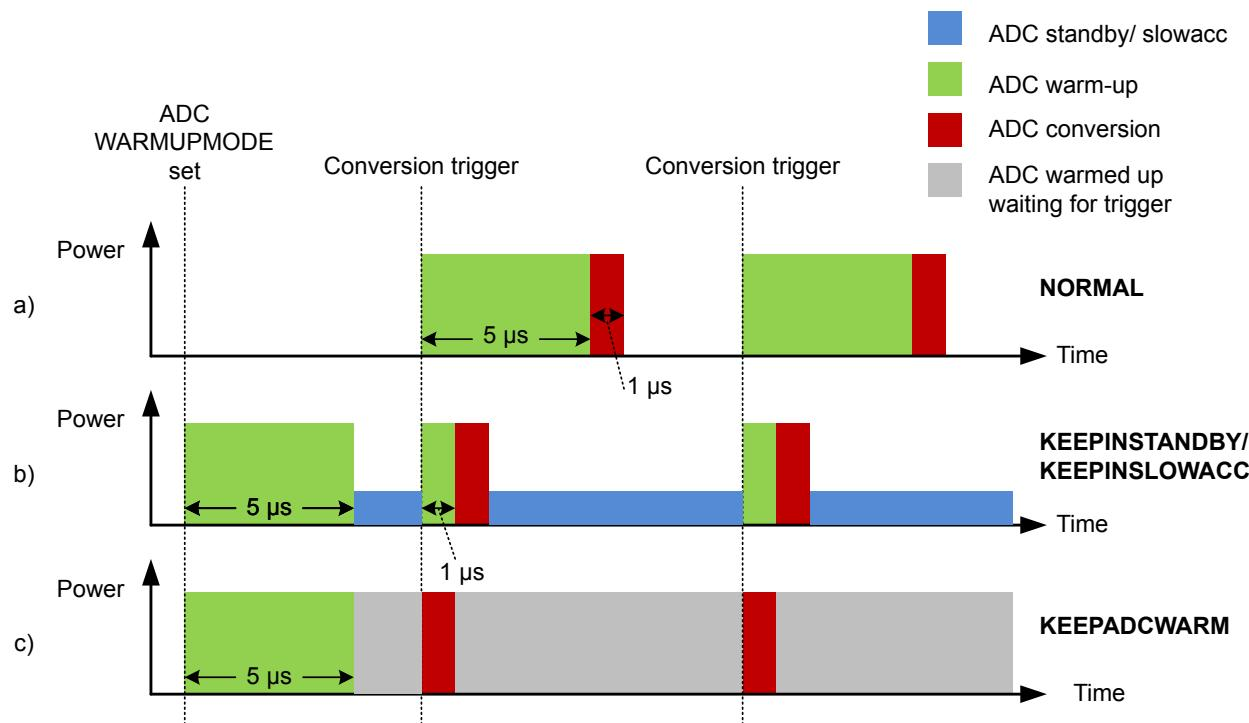

Figure 22.4. ADC Analog Power Consumption With Different WARMUPMODE Settings
Normally, the ADC will be warmed up only when samples are requested and is shut off when there are no more samples waiting. However, if lower latency is needed, configuring the WARMUPMODE field in ADCn_CTRL allows the ADC and/or reference to stay warm between samples, reducing the warm-up time or eliminating it altogether. Figure 22.4 ADC Analog Power Consumption With Different WARMUPMODE Settings on page 721 shows the effects on analog power consumption in scenarios using different WARMUPMODE settings.
- **NORMAL:** This is the lowest power option for general-purpose use and low sampling rates (below 35 kspS). The ADC and references are shut off when there are no samples waiting. The ADC does not consume any power when it is shut down. A 5 μ s warmup time will be initiated prior to every conversion. Figure a in Figure 22.4 ADC Analog Power Consumption With Different WARMUPMODE Settings on page 721 shows this mode.
- **KEEPINSTANDBY:** This mode is suitable for infrequent sampling of lower impedance inputs, and is the lowest power option for sampling rates between about 35 and 125 kspS. It may also be useful for lower sampling rates where latency is important. The reference selected for scan mode is kept warm, but the ADC is powered down. The ADC will initiate a 1 μ s warmup period before a conversion begins. Because the reference is kept warm, the ADC will consume a small amount of standby current when it is not converting. Figure b in Figure 22.4 ADC Analog Power Consumption With Different WARMUPMODE Settings on page 721 shows this mode.
- **KEEPADCWARM:** This mode provides the lowest latency and allows for maximum sampling rates. The ADC and reference circuitry remain powered on even when conversions are not in progress. Figure c in Figure 22.4 ADC Analog Power Consumption With Different WARMUPMODE Settings on page 721 shows this mode. This mode consumes the most power, but as soon as a trigger event occurs, the acquisition and conversion begin with no warm-up time. Note that if KEEPADCWARM mode is set and HFXO is selected as the ADC clock source, the HFXO will remain on in EM2.